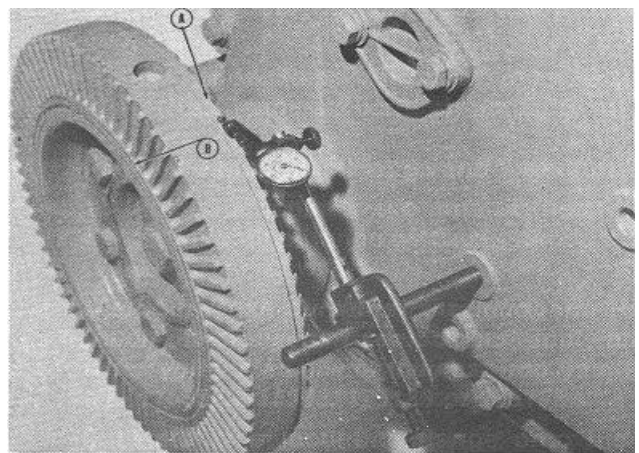

Fig. 14-47 (N114140). Measure The Movement On The Circumference And The Face Of The Vibration Damper.
- a. Install the dial indicator gauge to the gear cover as shown in Fig. 14-47. Position the tip of the indicator on point "A". Rotate the crankshaft. The total indicator reading must not exceed 0.003 inch [0.08 mm] per 1.0 inch [25.4 mm] of vibration damper diameter.
- b. Measure the movement of the face of the vibration damper. Put the tip of the indicator on point "B" (Fig. 14-47). Rotate the crankshaft. The crankshaft must be at the front or rear of the thrust clearance when you measure the movement. The total indicator reading must not exceed 0.0025 inch [0.064 mm per 1.0 inch [25.4 mm] of the radius (as measured from the center of the vibration damper).